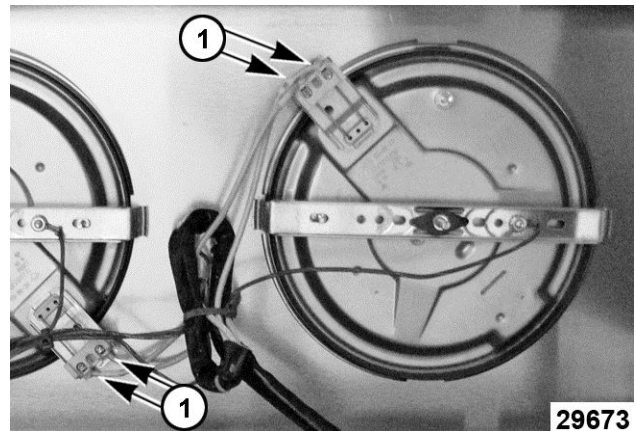

Fig. 20
2. Remove electrical connections noting their locations (1, Fig. 20).